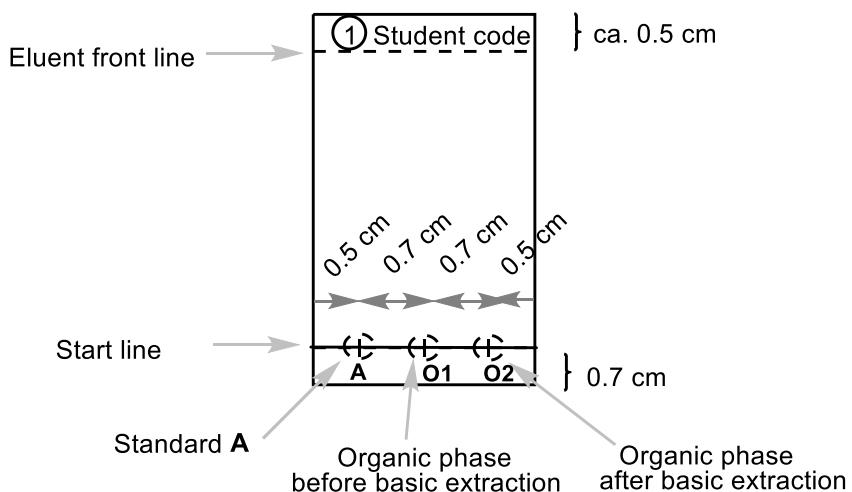

Figure 2. Instructions for the TLC plate preparation.
4. Prepare your TLC plate. Check it before use. Unused damaged plates will be replaced upon request without penalty. Use a pencil to draw the start line and mark the positions for spotting the samples. Write number **1** in a circle and your student code on the top of the TLC plate as shown in Figure 2. Dissolve the given sample of 2-acetonaphthone in a vial (**Standard A**) in ca. 2 cm^3 of ethanol (about 1 full glass Pasteur pipette). Mark three spot positions and label them **A**, **O1**, and **O2**. Spot $1\text{ }\mu\text{l}$ (one mark of the $5\text{ }\mu\text{l}$ capillary spotter) of standard **A** and the combined organic phase from step II.3 (**O1**). You will add spot **O2** later.